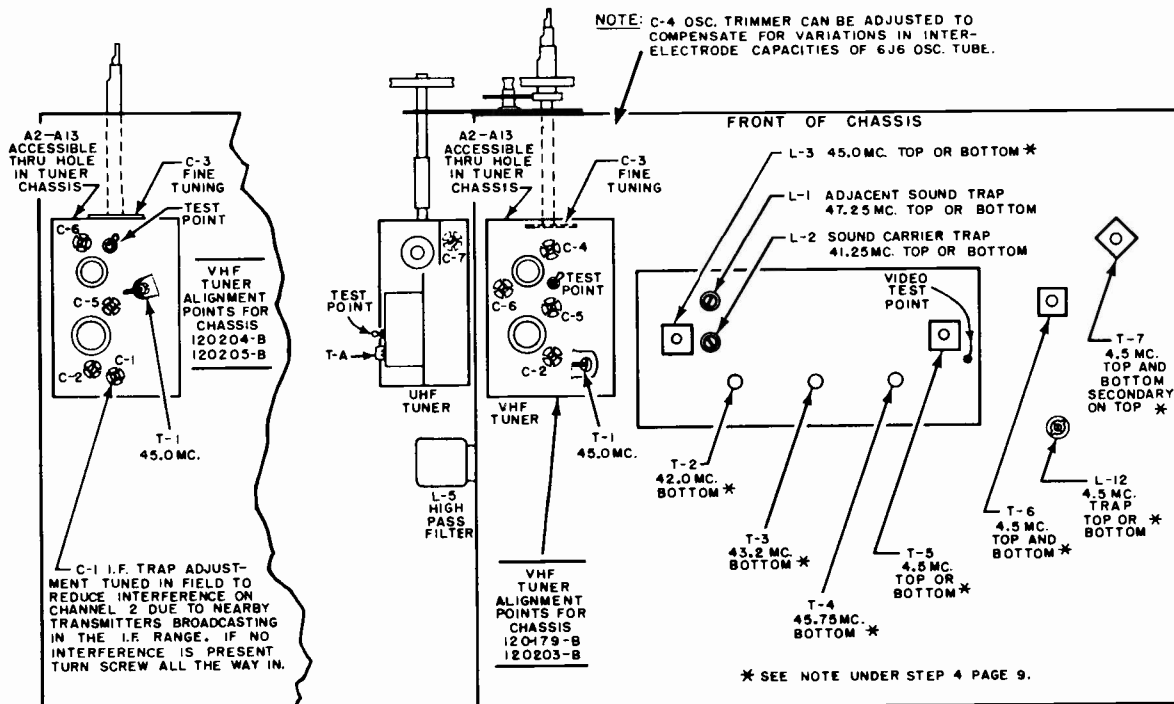

Figure 9. LOCATION OF ALIGNMENT POINTS (TOP VIEW)
- b. Alignment Points - The location of all I.F. transformers, Tuned Circuits, and trimmers shown in Figure 9.
The alignment of the tuner is factory set and will actually not require any additional adjustments other than to compensate for differences in 6J6 oscillator tubes. Because of this fact, the only adjustment to be made in the field is trimmer C-7 which is located next to the 6J6 oscillator tube. (See Figure 9)